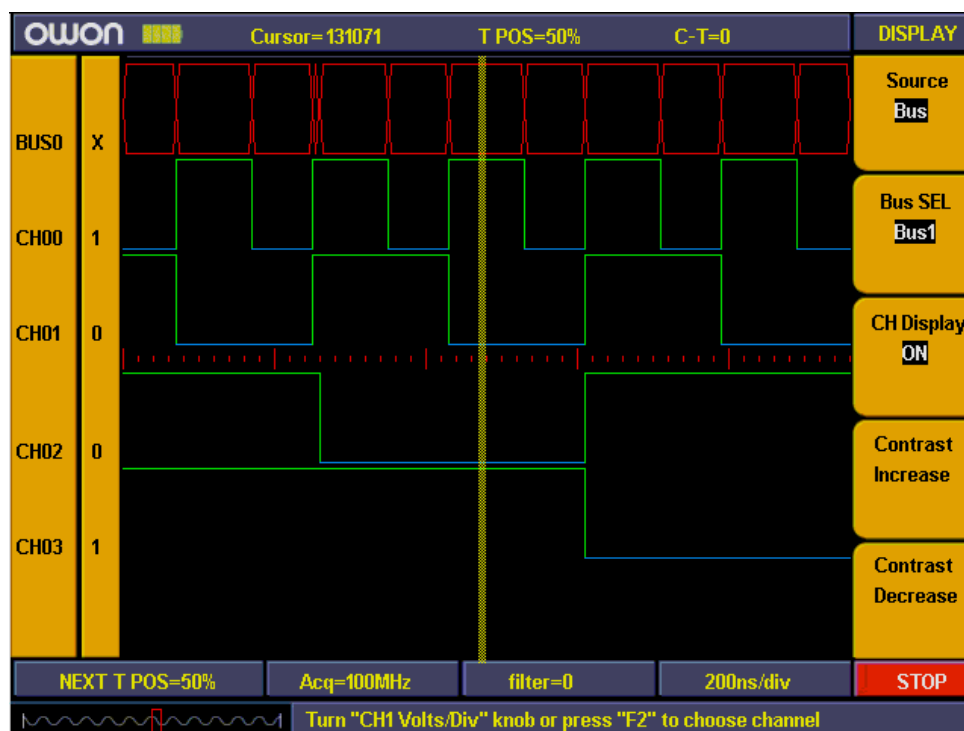

Fig 77: Display setting
- Channel display setting finished (refer to Fig. 77)